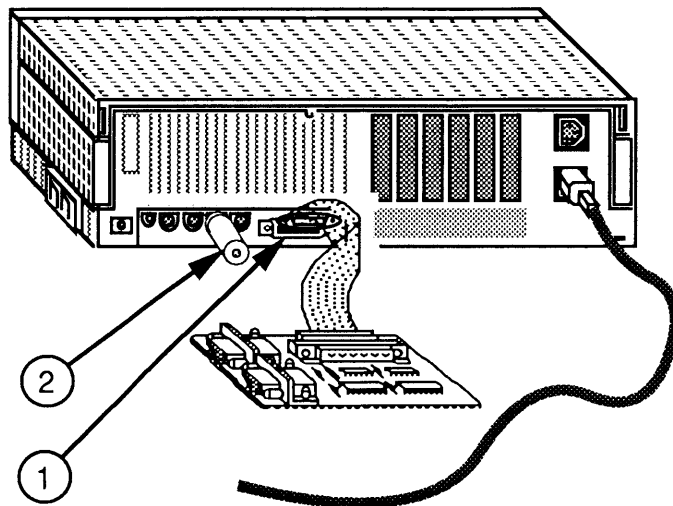

Figure 3-4
4. Connect the SCSI loopback card to the SCSI port (Figure 3-4, #1) on the UUT.
5. Connect the serial loopback plug to the printer port (Figure 3-4, #2) on the UUT.